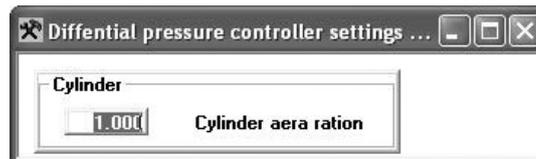

Fig. 56: Setting of the area ratio
- Delta pA-pB (pressure differential): The difference of the pressure in A and B is calculated in an area ratio-evaluated form. The area ratio can be set in the range from 0...15.99 (fig. 56 "Setting the area ratio" on page 64; M481). If the valve with the A side controls the bottom side of the single-rod cylinder, an area ratio > 1 is to be set. If the rod side is controlled with P-A, an area ratio < 1 is to be set. With a double-acting cylinder, a value of "1" is to be set. The calculation of the pressure command value and the output actual pressure value will then result with a positive Q command value: